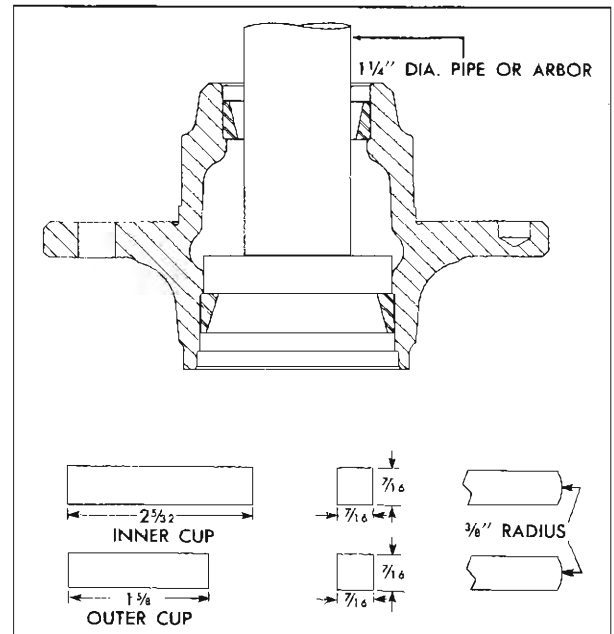

Fig. 10—Front Wheel Bearing Cup Removers
1. Using steel bar stock, make press-out tools shown in Figure 10.